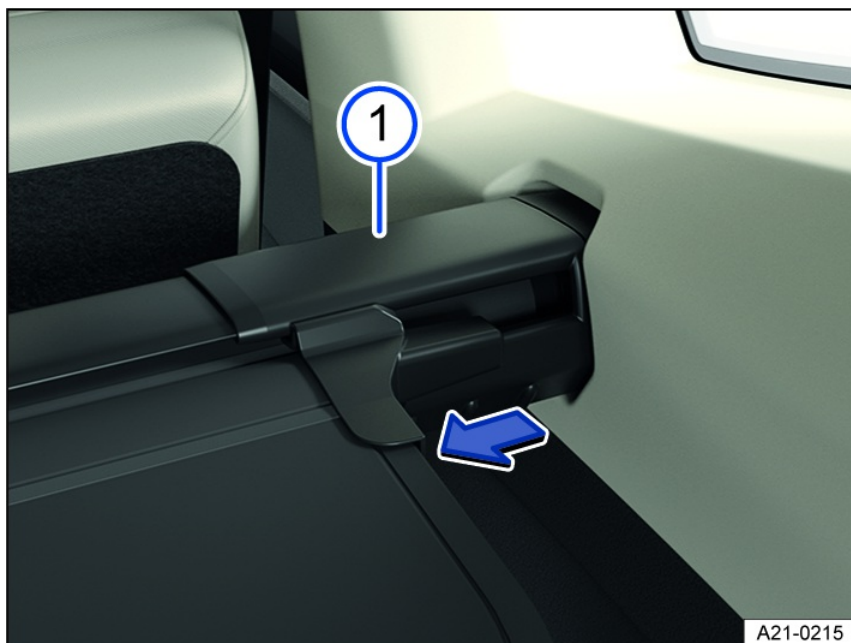

Fig. 169 In the luggage compartment: removing the luggage compartment cover.
2. Press the side panel on the luggage compartment cover *fig. 169* in the direction of the arrow and hold it in place.
4. Release the side panel on the luggage compartment cover *fig. 169*.
3. Guide the side panel *fig. 169* ① into the mount on the side trim panel.